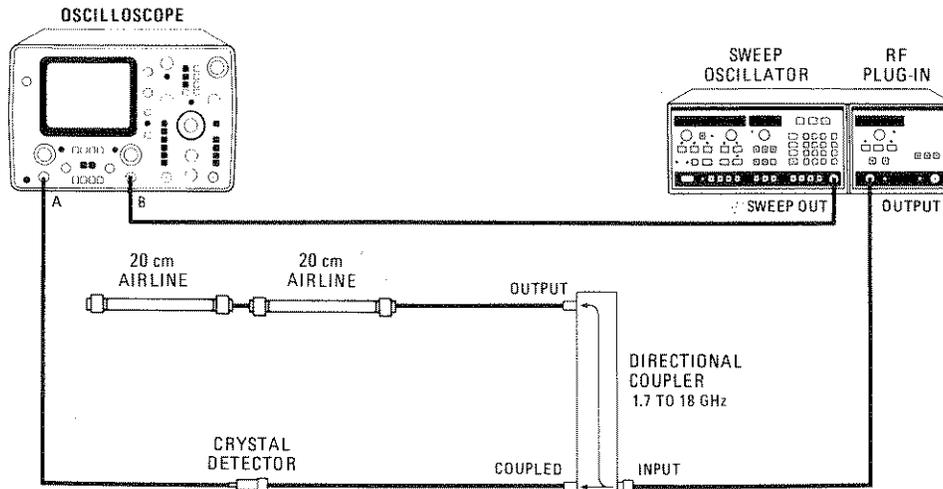

Figure 4-12. Mid Frequency Output SWR Test Setup
7. Connect equipment as shown in Figure 4-12.